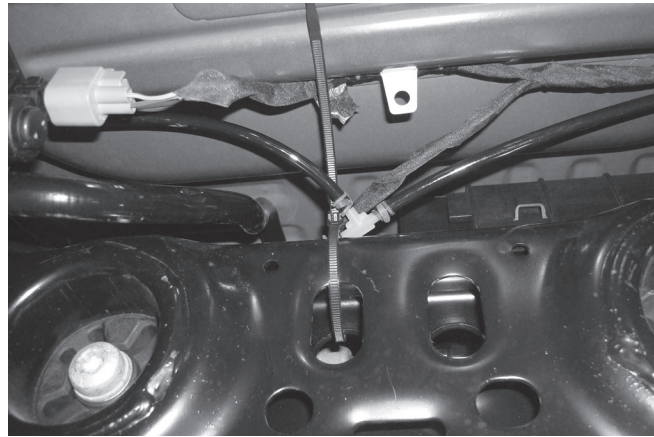

Fig. 7
10. Figure 7 shows an example of air line installation. A tee location was used above the crossmember and the air line was routed to the left side, behind the fender well, then continued back to a valve location using one of the existing holes in the bottom of the bumper cover.